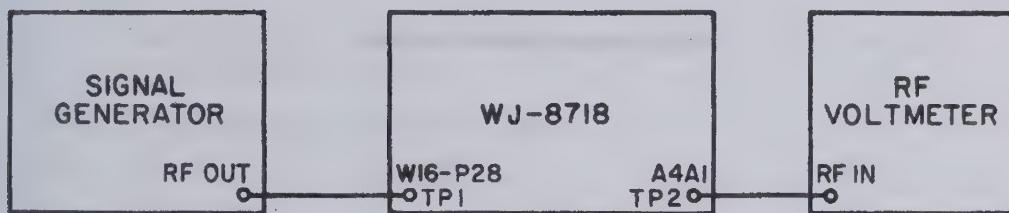

Figure 4-20a. Test Setup, 10.7 MHz Filter Switch Adjustment
1. Disconnect P28, 10.7 MHz input to IF strip (at jack A2J2 of Input Converter). Feed 10.7 MHz unmodulated signal at -50 dBm level, into P28 or TPI input of IF motherboard as shown in Figure 4-20a.